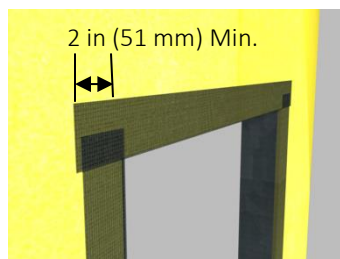

Figure 4
- 5) Install the AquaFlash System at the head, overlapping the jamb pieces a minimum of 2 in (51 mm) – Figure 4